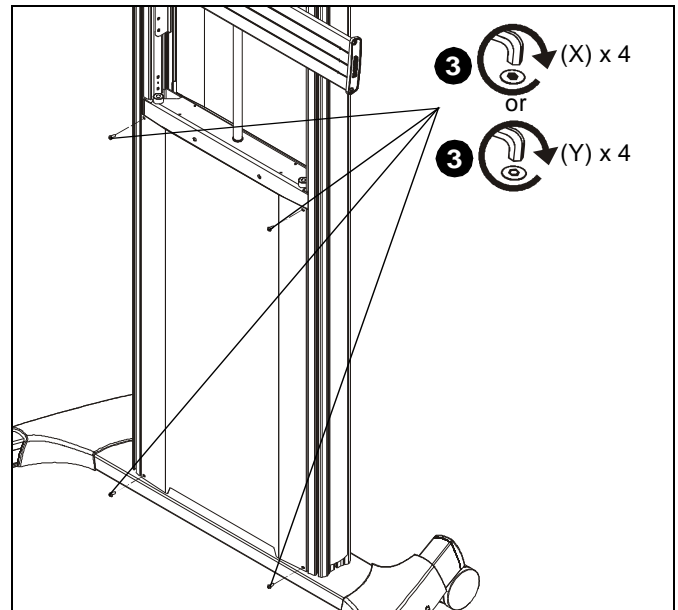

Figure 18
3. Use four #10-24 x 1/2" button head cap (X) or security (Y) screws to secure lower cover (D) to front of column assembly (F). (See Figure 18)